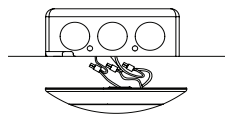

Figure 1
1. Connect the luminaire to supply wires with wire nuts (included) (Figure 1)